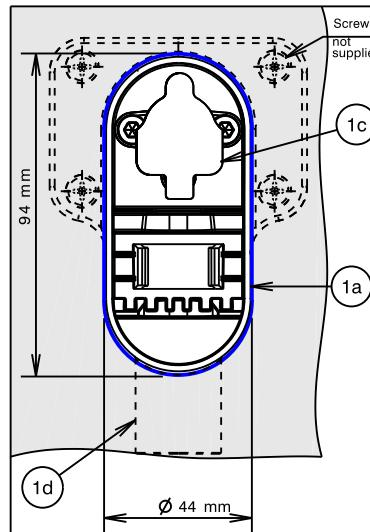

Fig.1 - Roughing kit installation
- 1) Fit the housing (1a) onto a noggin in the wall and secure using 4 screws (not supplied) through the holes, **Fig. 1**. Before tightening, horizontal alignment must be checked by using the flat face on the top of the housing (1a).
- \* The wall/tile cut-out must be Ø44 x 94mm to ensure enough sealing surface for cover plate (10), **Fig. 1**.